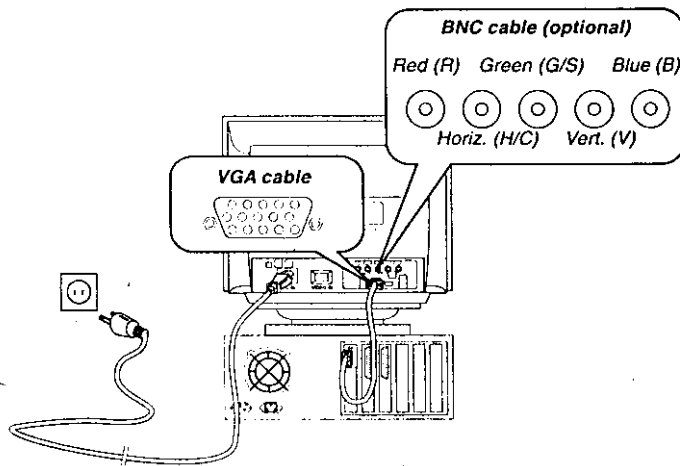

Figure 2. Connecting the monitor to the PC
2. Connect either the VGA cable or the BNC cable (optional) to the computer, as shown in figure 2,